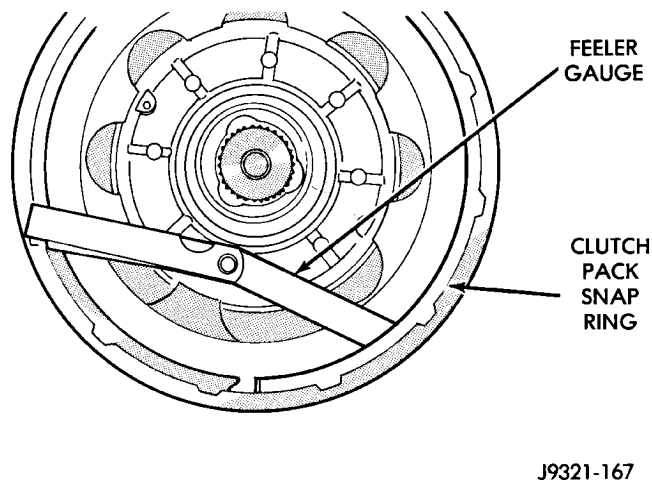

Fig. 172 Measuring Rear Clutch Pack Clearance
(17) Check clutch pack clearance with feeler gauge (Fig. 172). Clearance should be 0.63 to 1.14 mm (0.025 to 0.045 in.).
(18) If clutch pack clearance is incorrect, clutch pack snap ring, may have to be replaced.
(19) Install thrust washer on piston retainer hub. Use petroleum jelly to hold thrust washer in place.